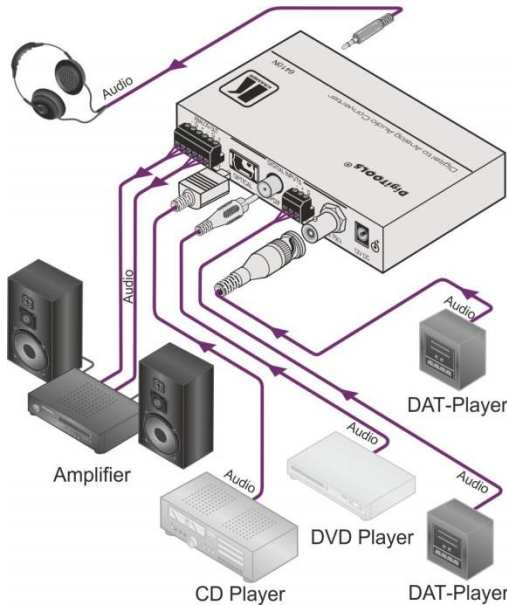

Figure 6: Connecting the 6410N Digital to Analog Audio Converter
To connect your **6410N** *Digital to Analog Audio Converter*, as illustrated in the example in Figure 6, do the following:
3. Connect the 12V DC power adapter to the power socket and connect the adapter to the mains electricity (not shown in Figure 6).